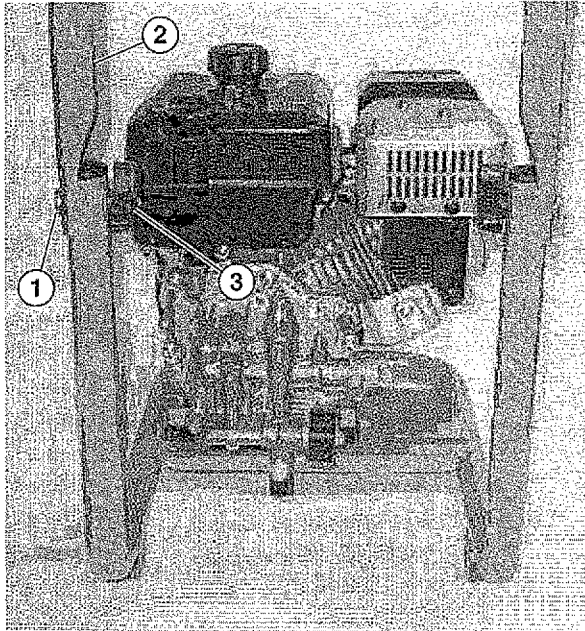

Figure 18 – Installing Upper Handle
2. Install the upper handle to the frame using the handle bolts and knobs (see Figure 18).